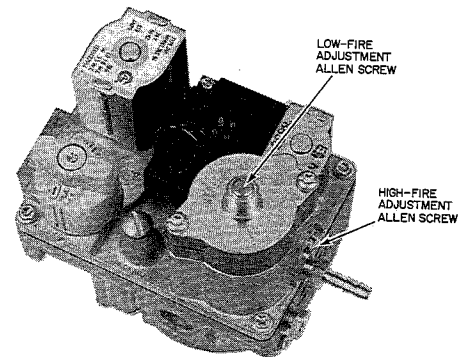

Fig. 10—Gas Valve
- Remove burner enclosure front and low-fire regulator adjustment seal cap. See Fig. 10.
- e. Replace low-fire regulator adjustment seal cap, and remove high-fire regulator adjustment seal cap. See Fig. 10.